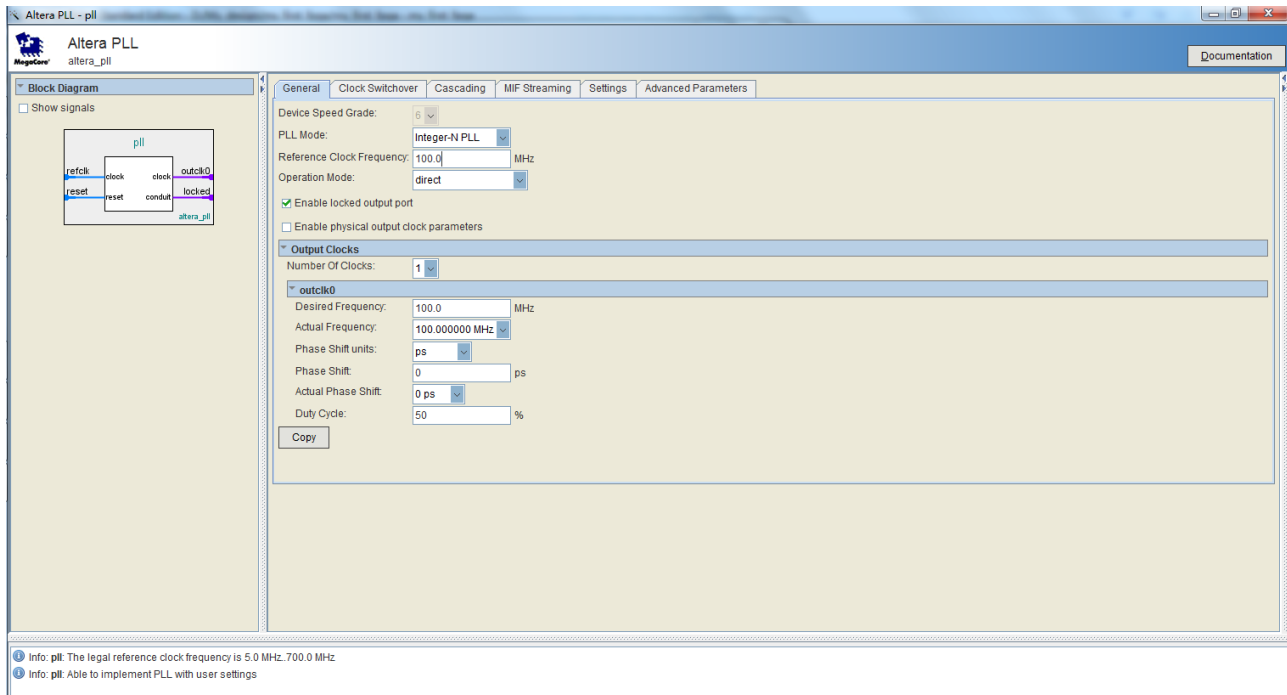

Figure 3-10 MegaWizard Plug-In Manager Selections
5. In the MegaCore Manager window, make the following selections (see **Figure 3-10**).